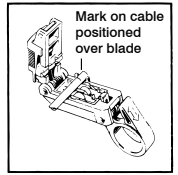

Figure 4
**D. Hold the tool** with the handle towards you and insert coax from left into the groove position. Close and latch tool. (Figs. 4 and 5)